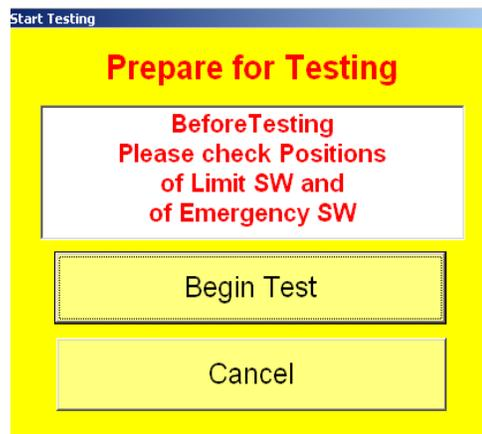

Figure 6.6. A picture of the “ Start Testing” window
(3). Click on the “Start” icon () that is located at the top of the main window. The “Start Testing” window will appear (Figure 6.6).